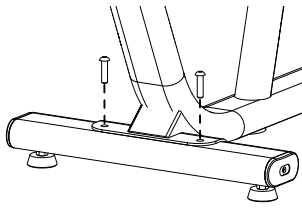

Figure 2
- Secure the rear stabilizer using two M10 x 40 mm BHCS (Figure 2). Fully tighten using a 6 mm hex wrench.